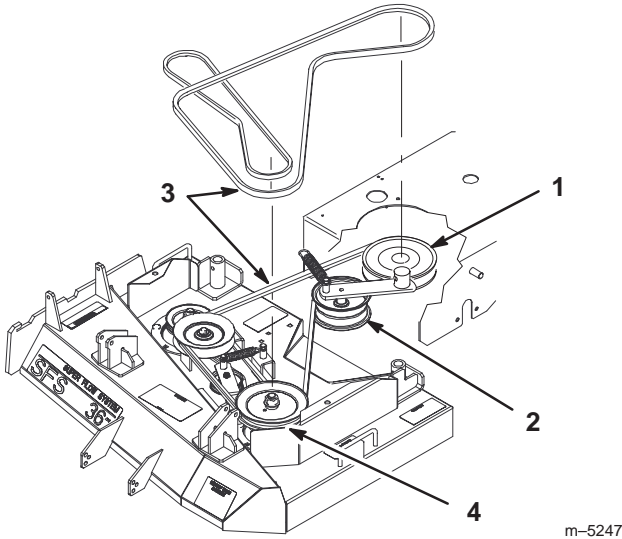

Figure 60
5. Remove the idler spring from idler arm. Remove the drive belt from the PTO engagement pulley and the center spindle pulley (Fig. 60).
6. Remove the worn drive belt (Fig. 60).
7. Install the new drive belt onto the PTO engagement pulley and the top groove of the center spindle pulley (Fig. 60).
8. Install belt onto idler pulley and then install idler spring (Fig. 60).
9. Adjust PTO drive belt guides an 1/8 in. (3 mm) from belt (Fig. 60).